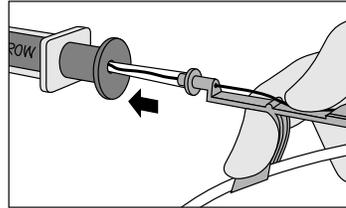

Fig. 5
- Place the tip of the Advancer™ – with "J" retracted – into the hole in the rear of the Raulerson Syringe plunger (refer to Fig. 5).